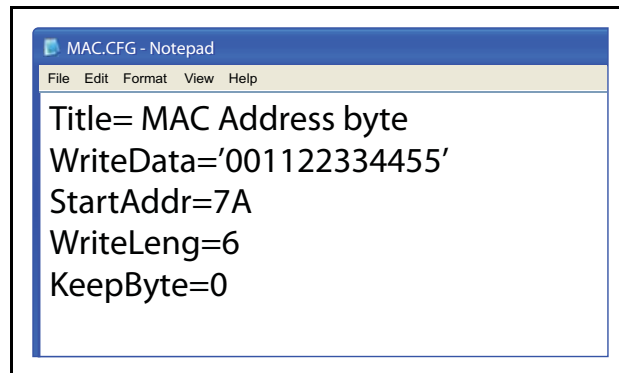

Figure 2-33. MAC.CFG File
1. Use a text editor (e.g. Notepad) to open and edit the MAC.CFG file. (Figure 2-33)